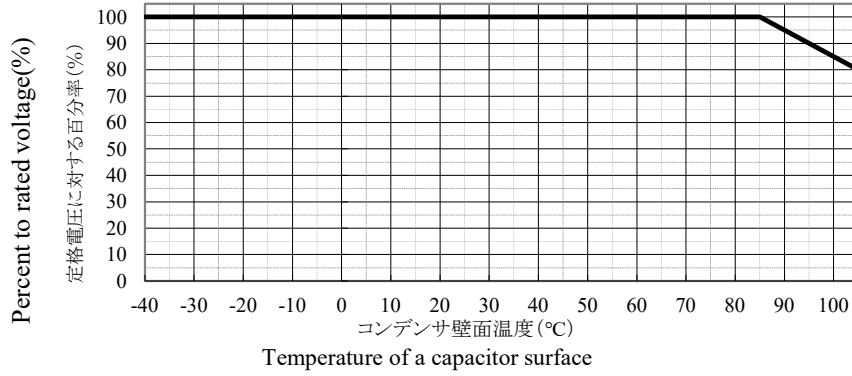

Fig.2 CURRENT DERATING VS. TEMPERATURE
- * When used beyond 70°C at temperature of capacitor surface, be in accordance with Fig.2.
When used beyond 70°C at temperature of capacitor surface, be in accordance with Fig.2